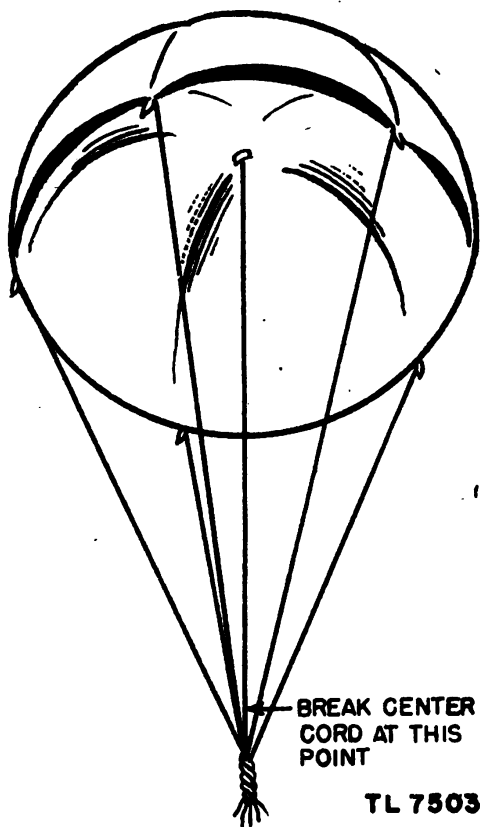

FIGURE 10. Parachute for battery lighting unit.
(1) *Battery light unit.* The battery light unit consists of a battery, a bulb, and a parachute (figs. 10, 11, and 12).
(a) *Preparing parachute.* Locate the cord which extends from the inside center of the parachute to a knot which joins the side cords (fig. 10). Break this cord just above the knot, and turn the parachute inside out, thereby furnishing a cord extending from the top outside of the parachute. Take a short cord, and loop it around the battery